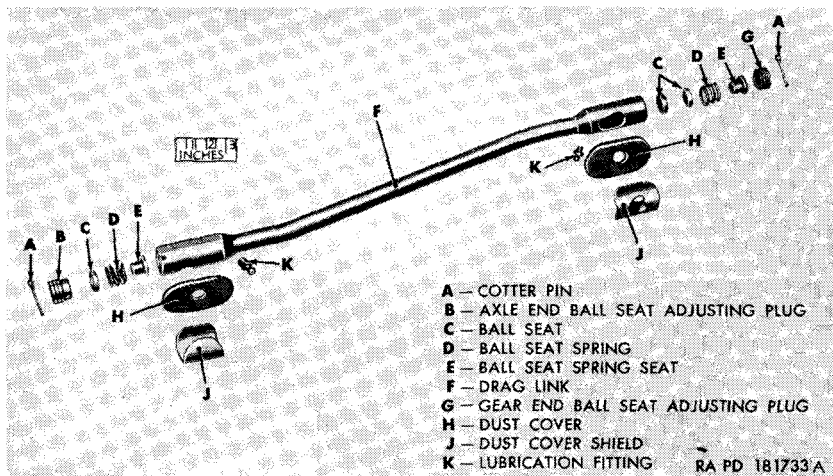

Figure 111. Drag link assembly—exploded view.
*Note.* The *Key* letters noted in parentheses are in figure 111, except where otherwise indicated.